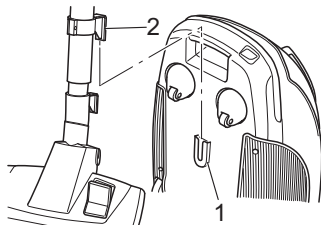

Fig.17
- When **putting away** the vacuum cleaner, you can also use the stow-away hook mount (Fig. 17/1) on the underside of the cylinder vacuum cleaner. This is where you can hook the stow-away hook (Fig. 17/2) onto the telescopic tube (Fig. 17).